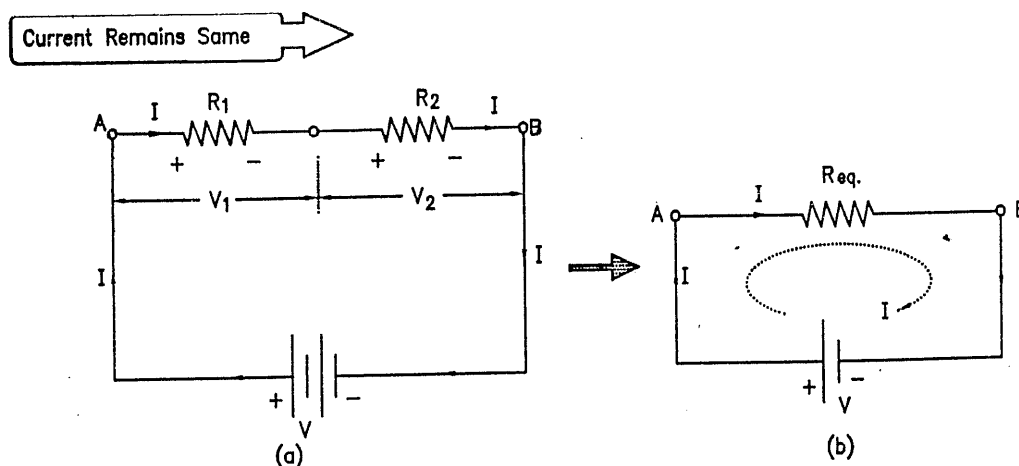

FIG. 1.26 : RESISTANCES CONNECTED IN SERIES
- Consider two resistances R_1 and R_2 connected in series across a voltage source of V volts as shown in Fig. 1.26 (a).